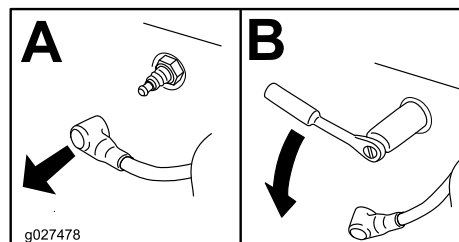

Figure 35
3. Locate and remove the spark plugs (Figure 35).